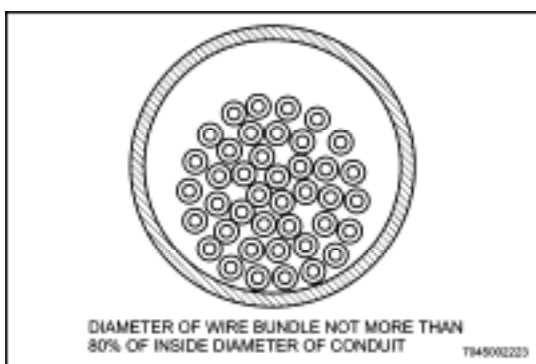

Figure 4-9 Capacity Limits for Conduit
37. The protected wire or wire bundle diameter must not be more than 80% of the inside diameter of the conduit. (See Figure 4-9)